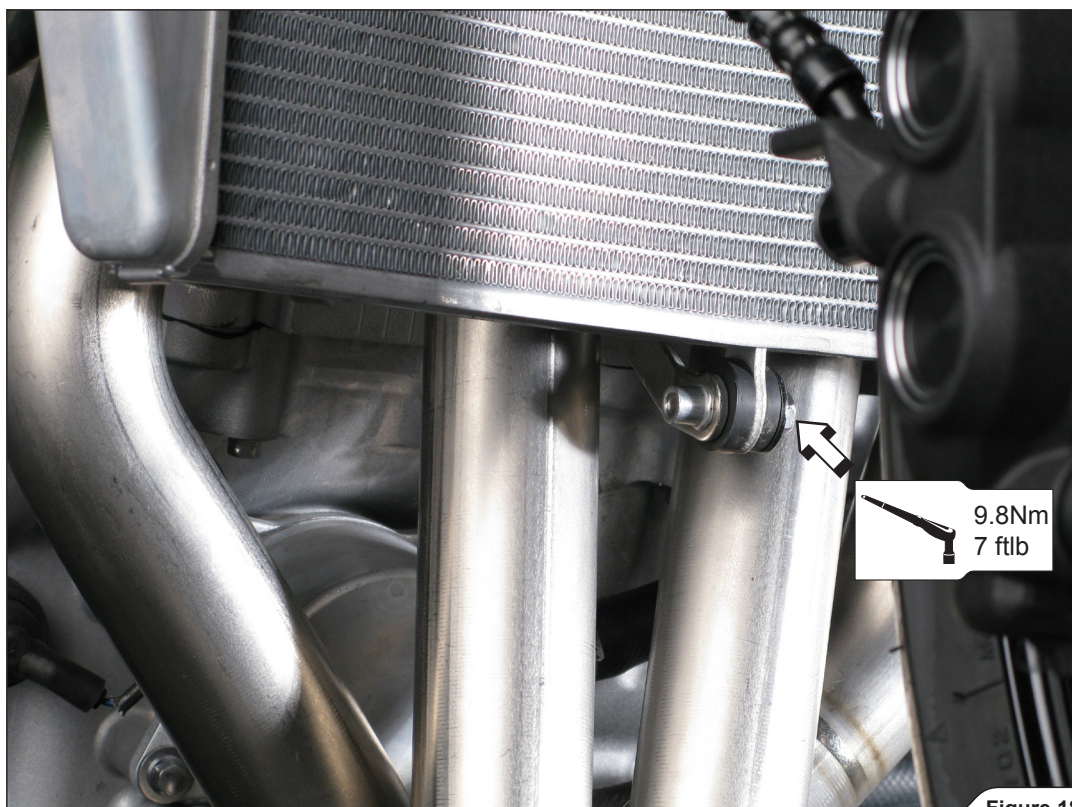

Figure 18
6. Tighten the radiator's bracket bolt to a specified torque (**Figure 18**).